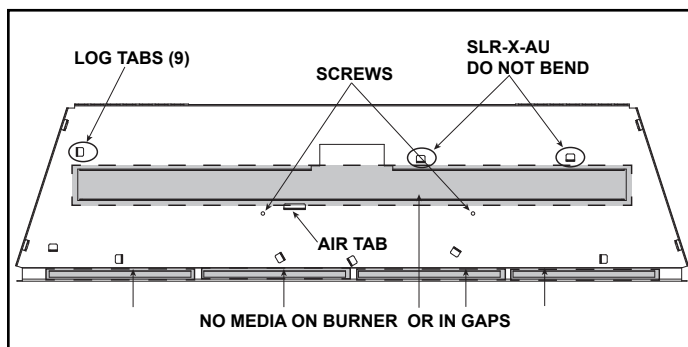
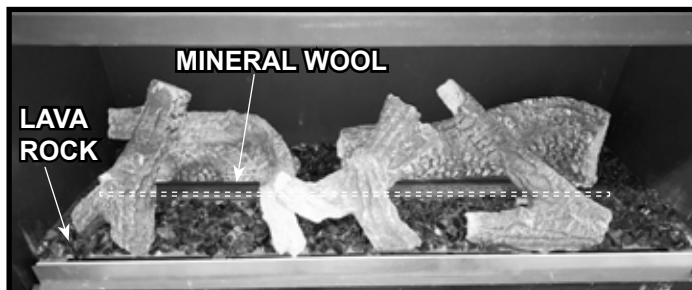

Figure 3. COSMO42-IFT/COSMO42-IFT-B Empty Base Pan
Figure 11. Properly Placed Lava Rock / Location for Mineral Wool
COSMO42-IFT/-B: Bend 9 tabs and bend air tab. See Figure 3.
SLR-X-AU / AUB: Bend 7 tabs. Do not bend the two right rear tabs or the air tab. See Figure 3.
15. Place lava rock onto areas of the base pan to fill in around the logs as desired. It is acceptable to completely cover the base pan. DO NOT cover burner, gaps behind burner, air tab, or block the space in front of the pilot assembly. See Figure 3. Place lava rock in a single layer so no sheet metal is showing. Figure 11 shows lava rock properly placed in relation to logs and areas that must be avoided.